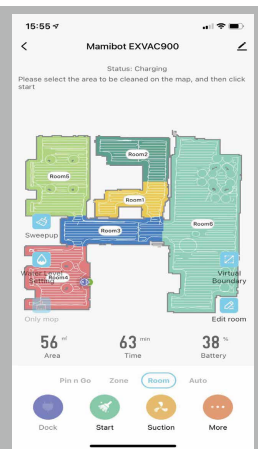

Fig.20
- Users can order P n Go cleaning, Zone cleaning, Room cleaning and Auto cleaning (Fig.20).